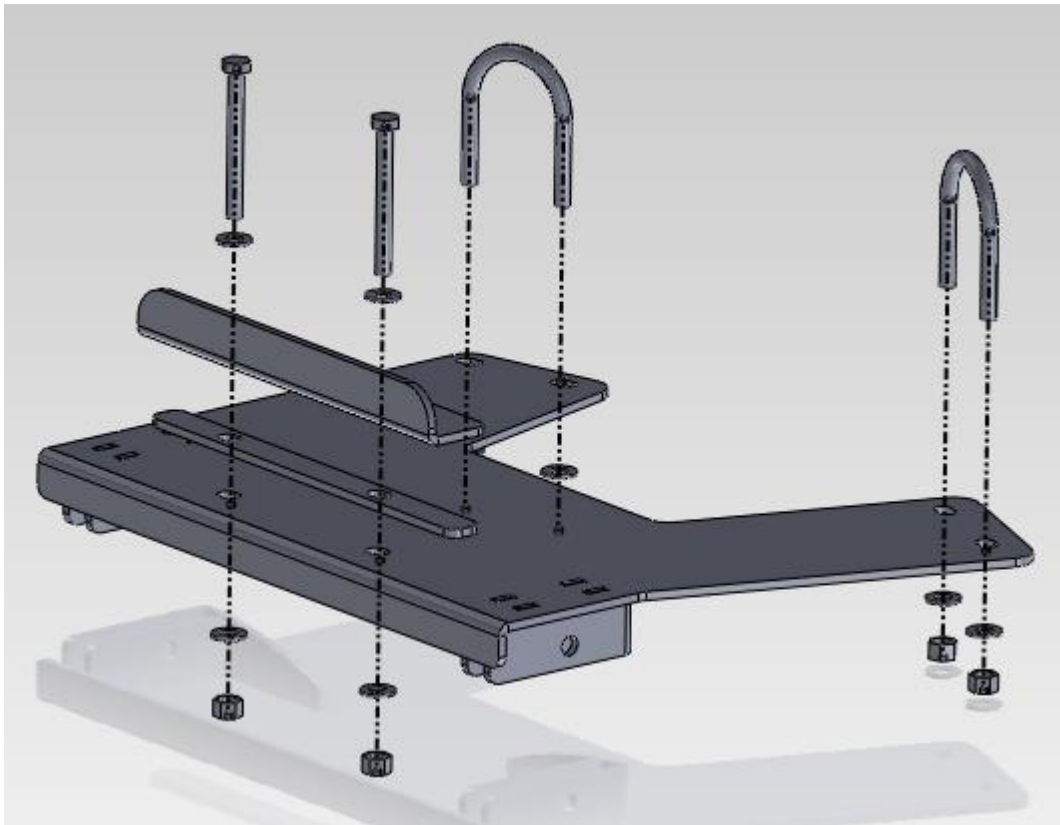

Figure 2
3. Insert the two 2.5" bolts from the top of the angled hold down bracket (Figure 2). The bolts should go through the ATV frame and down through the flat hold down bracket which sits on the underside of the ATV's plastic underbody and atop the mount plate. The bolts then make their way through the mount plate. Secure with the included 5/16" washers and nuts.